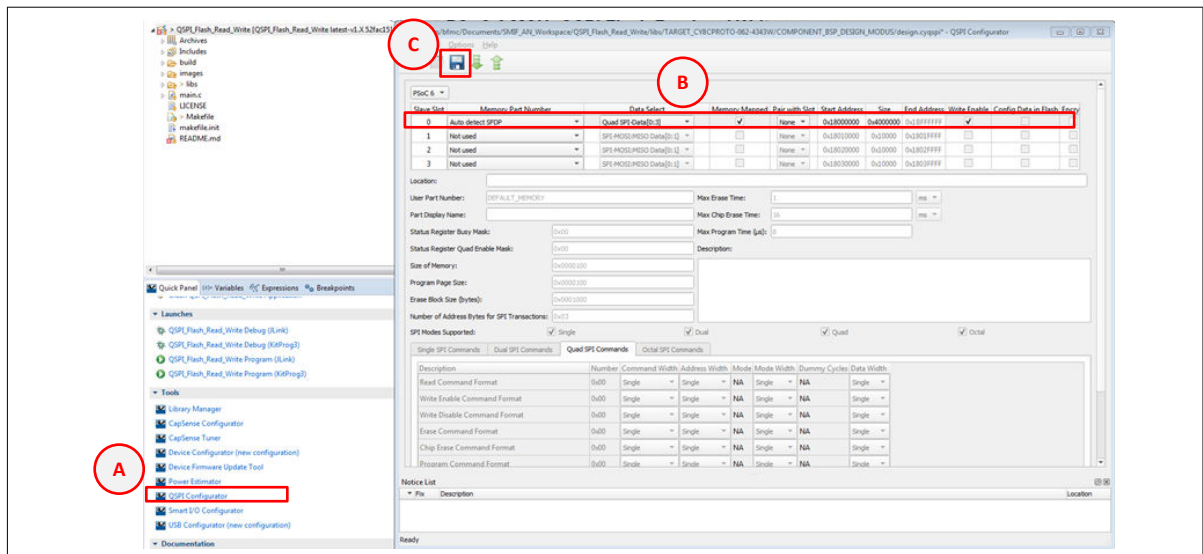

Figure 3 Steps to use the QSPI Configurator
2. Generate the QSPI configuration structures using the QSPI Configurator. Figure 3 shows an example configuration suitable for use with any PSoC™ 6 MCU kit that has an external flash device.